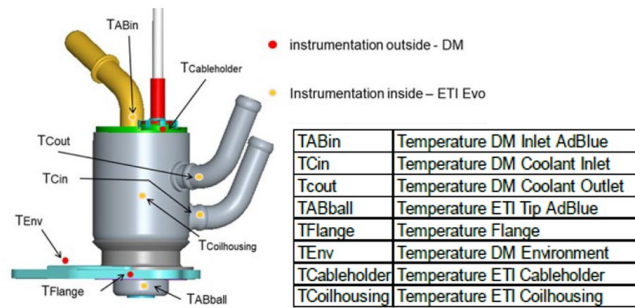

Figure 7-35. Measurement points for instrumented dosing module
- If temperature measurements are performed, the measurement points (figure 7-35) of the instrumented dosing module are shown in the offer drawing and must be used. TCoilhousing, TFlange and TCableholder are not relevant for release.